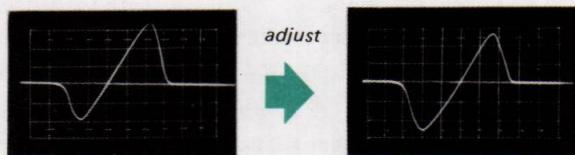
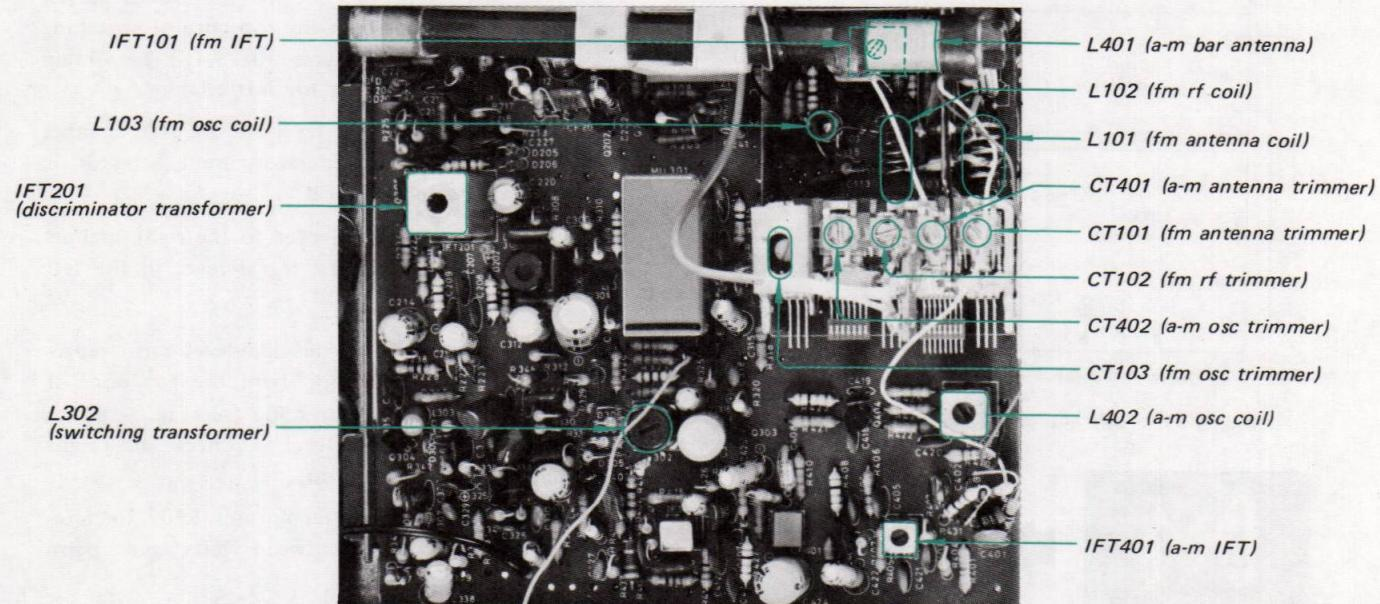
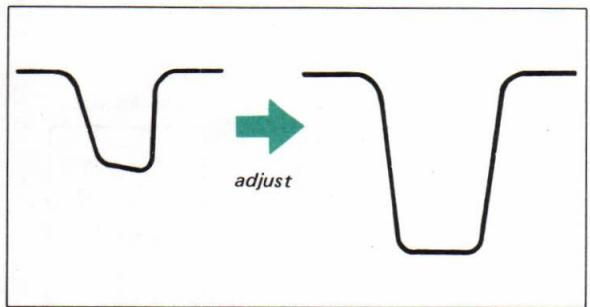
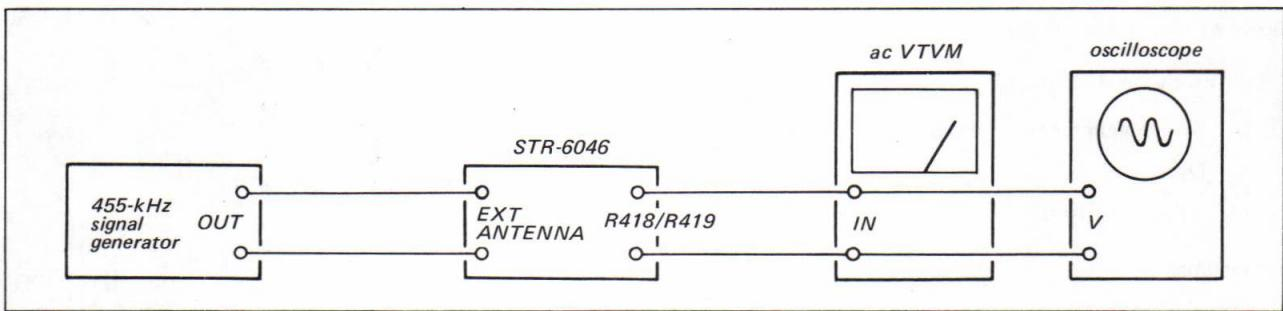

Fig. 3-6. "S" curve response
Fig. 3-10. Adjusting parts location
Fig. 3-16. A-m i-f response
Fig. 3-17. Test setup for a-m i-f alignment by rf signal generator
- Turn the top core (secondary side) of discriminator transformer IFT201 (see Fig. 3-10) with an alignment tool to obtain the "S" curve response, and equalize the positive and negative peaks of the "S" curve response, as shown in Fig. 3-6.
- Adjust i-f transformer IFT101 (see Fig. 3-10) and primary side of discriminator transformer (IFT201 bottom core) to obtain a maximum-amplitude "S" curve response.
4. If the discriminator transformer IFT201 (see Fig. 3-10) is not aligned correctly, 400-Hz ripple will be observed as shown in Fig. 3-8.
7. Turn the core of fm IFT101 (see Fig. 3-10), and the primary side of discriminator transformer IFT201 to obtain the maximum output.
| 1.                           | Direct coupling                   | 87.5 MHz400 Hz100% mod.10µV (20 dB)  | lowest position       | OSC coil L103See Fig. 3-10                             | Maximum VTVM reading |
| 2.                           | Same as above                     | 108.4 MHz400 Hz100% mod.10µV (20 dB) | highest position      | OSC trimmer CT103See Fig. 3-10                         | Same as above        |
| 1.                           | Direct coupling                   | 87.5 MHz400 Hz100% mod.10µV (20 dB)  | lowest position       | Antenna coil L101RF coil L102See Fig. 3-10         | Maximum VTVM reading |
| 2.                           | Same as above                     | 108.4 MHz400 Hz100% mod.10µV (20 dB) | highest position      | Antenna trimmer CT101RF trimmer CT102See Fig. 3-10 | Same as above        |
2. Precisely tune the set to the SSG's carrier frequency then turn the top core of switching transformer L302 (see Fig. 3-10) to obtain maximum output at the left channel.
5. The output-level to residual-level ratio represents the separation. Turn the top core of switching transformer L302 (see Fig. 3-10) for minimum residual level. Check the right channel for separation.
5. Turn the top core of a-m IFT401 (see Fig. 3-10) to obtain a maximum and symmetrical response as shown in Fig. 3-16.
3. With the equipment connected as shown in Fig. 3-17, turn the top core of a-m IFT401 (see Fig. 3-10) to obtain the maximum output.